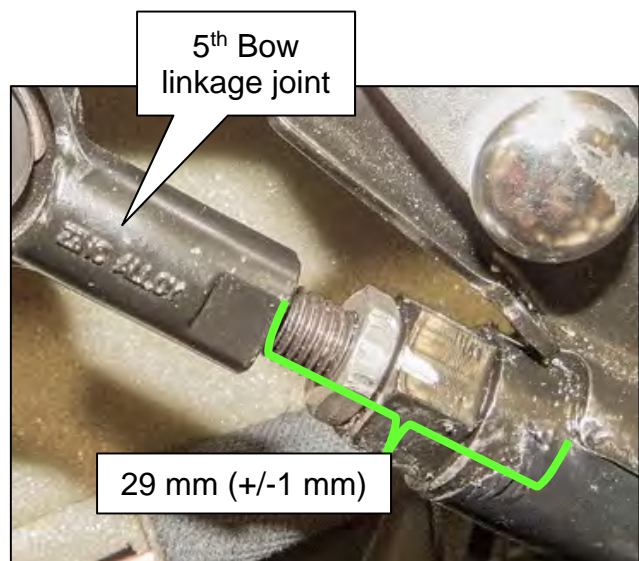

Figure 33
36. Measure the gap between the base of the 5th bow linkage joint to the flange, as shown in Figure 33.
- The length is measured from the base of the 5th Bow linkage joint to the flange, as shown in Figure 33.